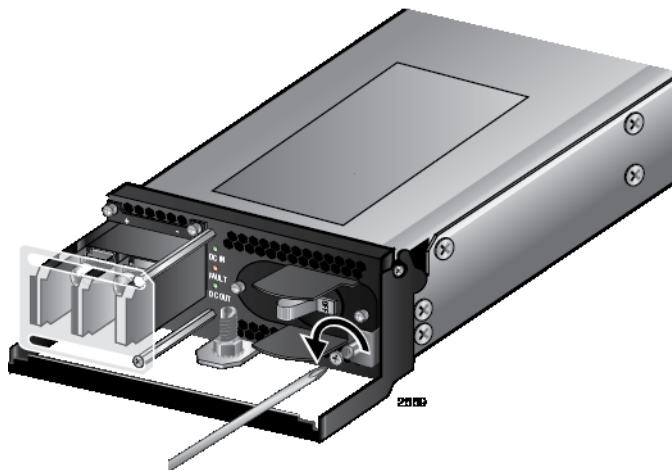

Figure 38. Loosening the Handle locking Screw on the SBxPWRSYS1-80 DC Power Supply
4. With a #2 Phillips-head screwdriver, loosen the handle locking screw on the power supply, as shown in Figure 38.